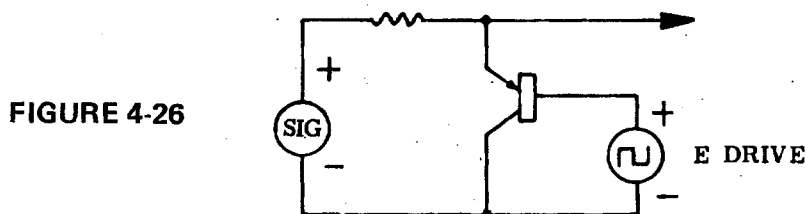

FIGURE 4-26
4.11.2 Synchronous Filter as Voltage Limiter - The synchronous filter may also be used as a voltage limiter in such a way that "in" or "out" of phase signals may be limited independently at different amplitude levels. In the lateral guidance channel this is used for separate left and right bank adjustments, however, this use of the filter is suited to many applications. In this application of the filter, limiting action occurs when the off condition of the transistor collector voltage tends to exceed the reverse voltage applied to the base. For the purpose of this discussion, assume the transistor to be PNP, noting that NPN transistors behave the same with all polarities reversed. If the signal is negative during the off half cycle, the transistor switch will not conduct regardless of the magnitude of the signal (not considering exceeding design limits); but if the signal is positive, conduction will occur when the collector becomes more positive than the base. Fig. 4-26 illustrates this by showing the fact that the two junctions (collector-base and emitter-base) of the transistor are actually diodes.